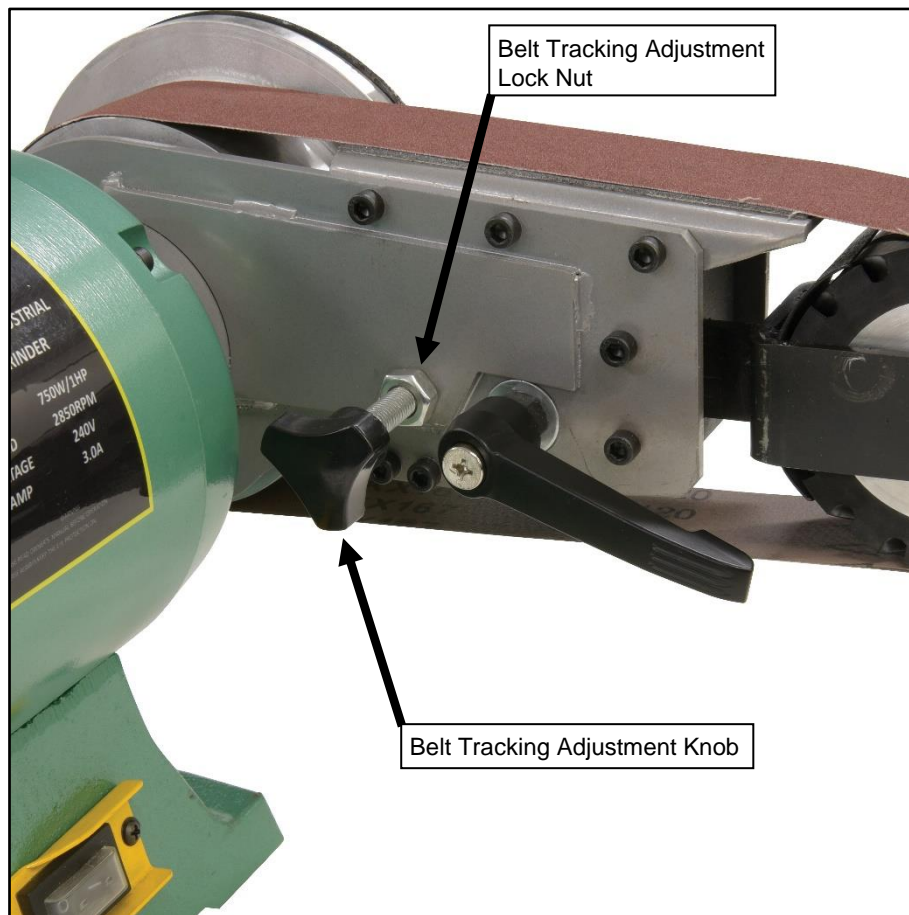

Figure 3 – Belt Tracking Adjustment
5. Make a small adjustment to the tracking adjustment knob then rotate the drive wheel several times while observing the sanding belt. Refer Figure 3.